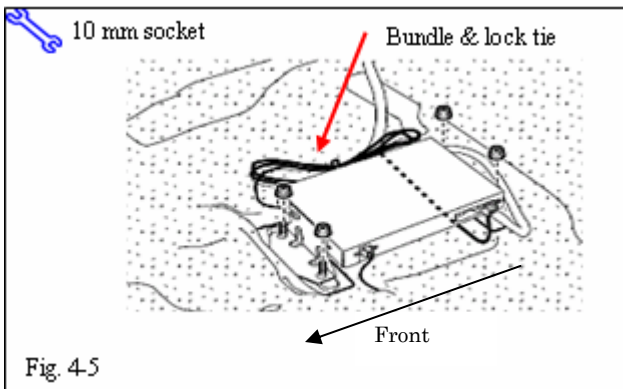

Fig. 4-5
- (j) Plug in AVC-LAN & Antenna extension cables; then bundle excess, secure with a lock tie, and tuck under carpet through carpet cutout. Insure XM harness is inboard of vehicle seat harness. (Fig. 4-5)